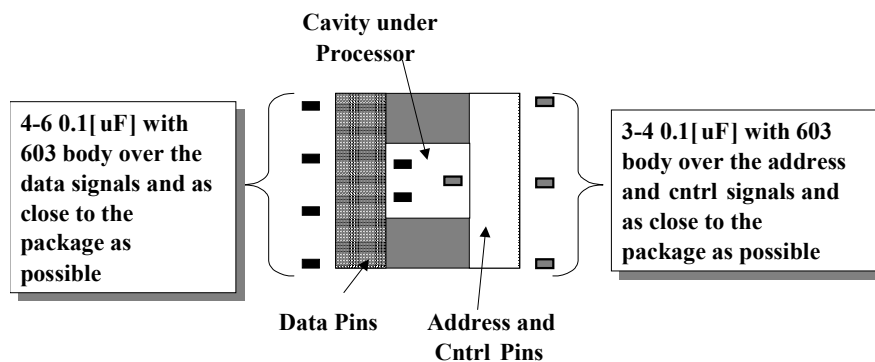

Figure 14 – Capacitor Placement
- ◆ The bulk capacitors should be mounted between the phase drivers and the socket, as close as possible to the socket. If the phase drivers are separated substantially from each other, the bulk capacitors should be divided up among them. Figure 14 details one example of phase driver and bulk capacitor placement.